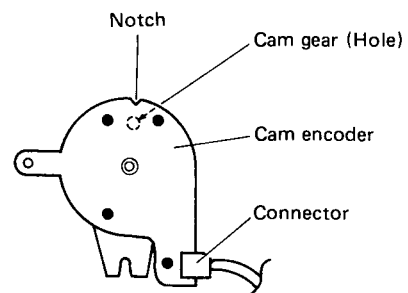

Fig. 2-5-3 Phase adjustment of mode control switch
1. In the Stop mode, the mode control switch is set in the phase shown in Fig. 2-5-3.